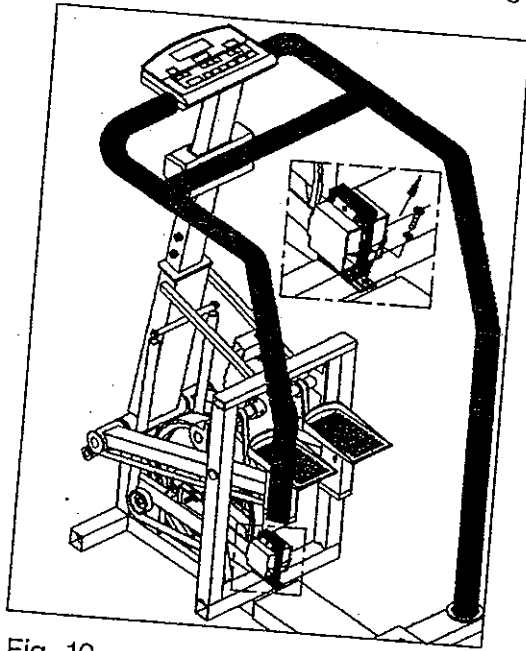

Fig. 10
9. Remove the screw and washer securing the electromagnet unit (see Fig. 10).